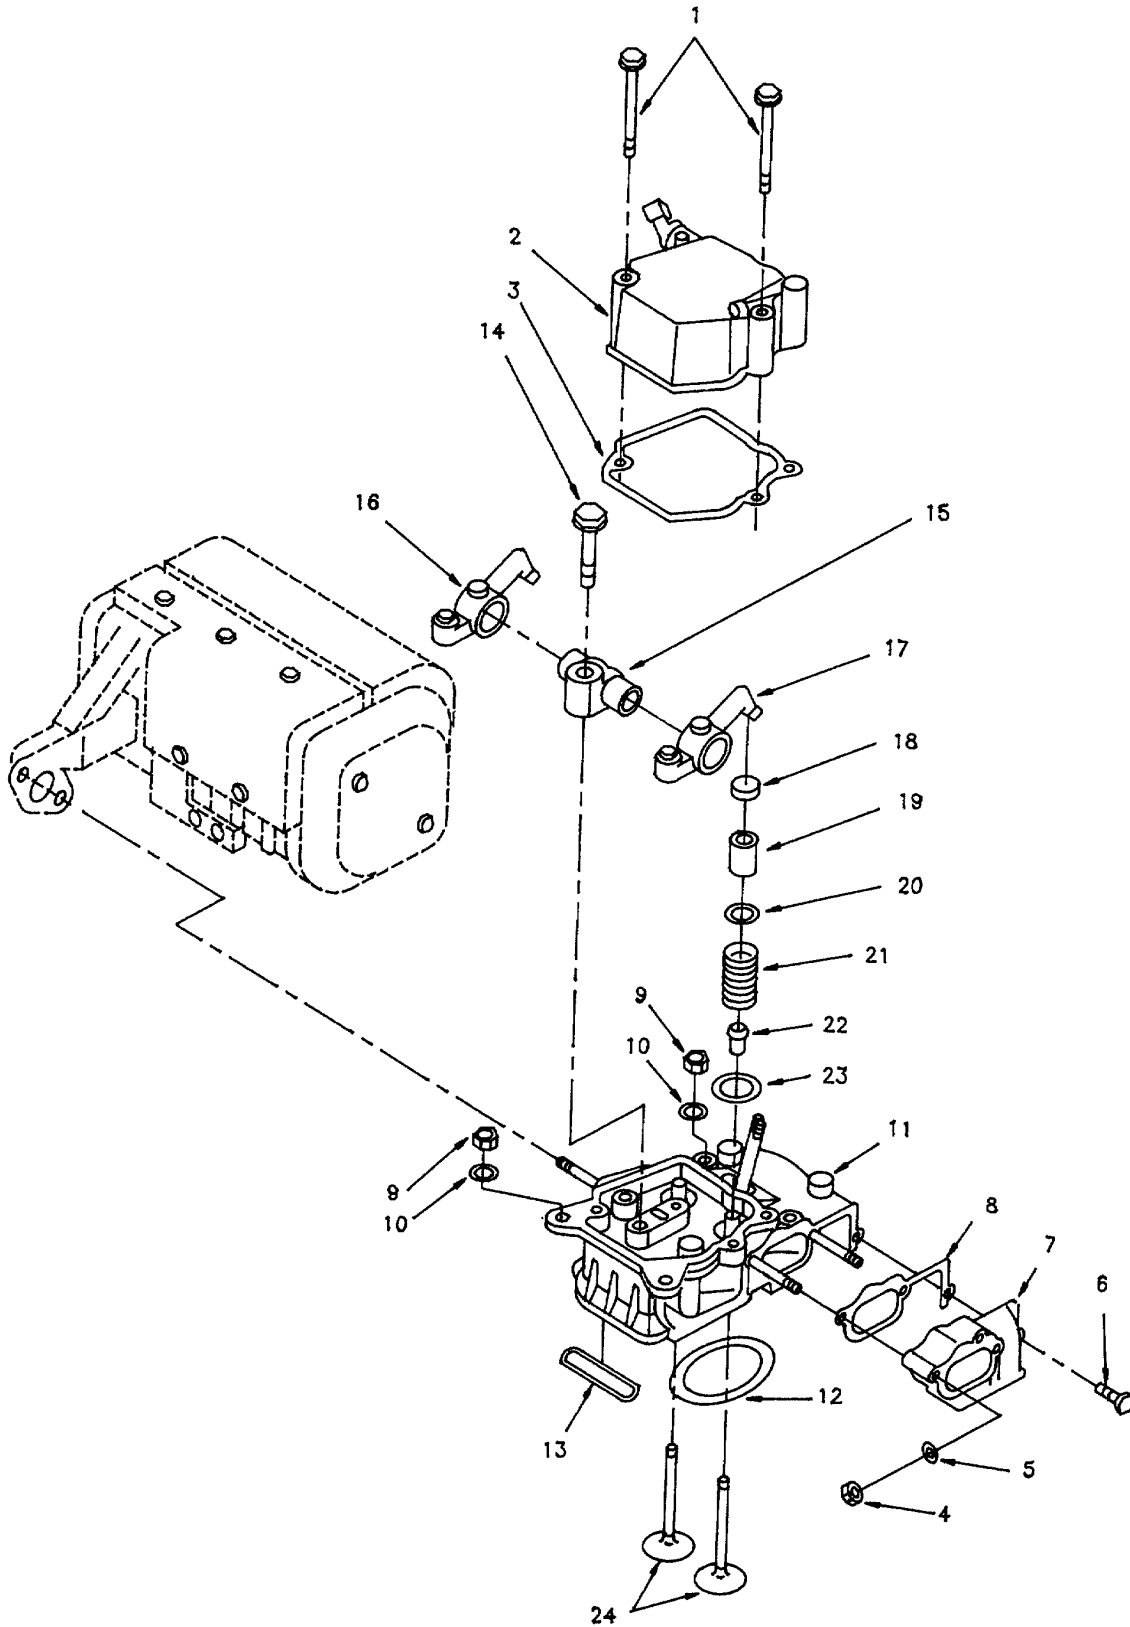

Figure 5-9. Bonnet Assembly, Diesel Cylinder Head, and Exhaust Muffler.
- (1) Remove cap screws (1, Figure 5-9) and bonnet assembly (2).
- (2) Remove gasket (3).
- (3) Remove plain hexagon nuts (4) and flat washers (5).
- (4) Remove cap screw (6) and straight spacer (7).
- (5) Remove gasket (8).
- (6) Remove plain hexagon nuts (9) and flat washers (10).
- (7) Remove diesel cylinder head (11), gaskets (12), and preformed packing (13).
- (8) Remove cap screw (14) from rocker arm support (15).
- (9) Remove rocker arm support (15) and engine rocker arms (16 & 17).
- (10) Remove valve cap (18), valve spring locks (19), and spring retainer (20).
- (11) Remove compression springs (21), plain seals (22), and flat washers (23) from diesel cylinder head (11).